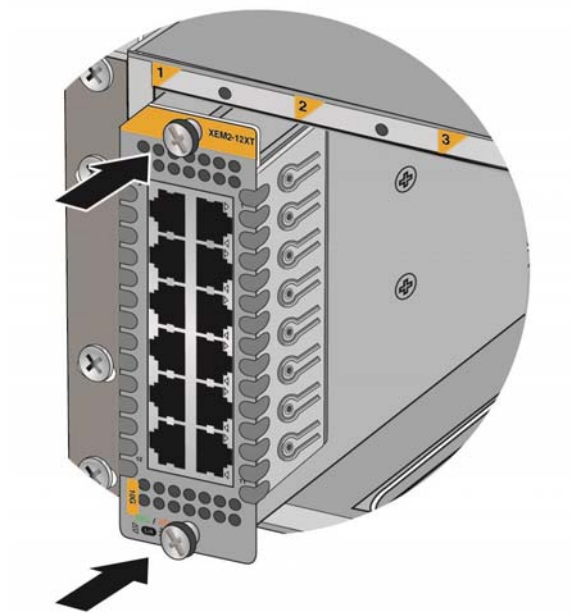

Figure 39. Seating an Ethernet Line Card in the Chassis
5. When you feel the line card make contact with the connector on the backplane of the chassis, gently press on the top and bottom of the faceplate to seat the card on the connector. Refer to Figure 39 on page 72.